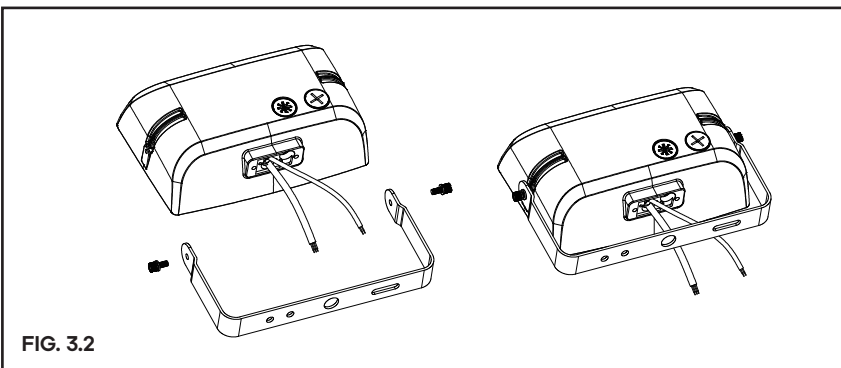

FIG. 3.2
Step 2: Tighten the brackets and screws. (Figure 3.2)